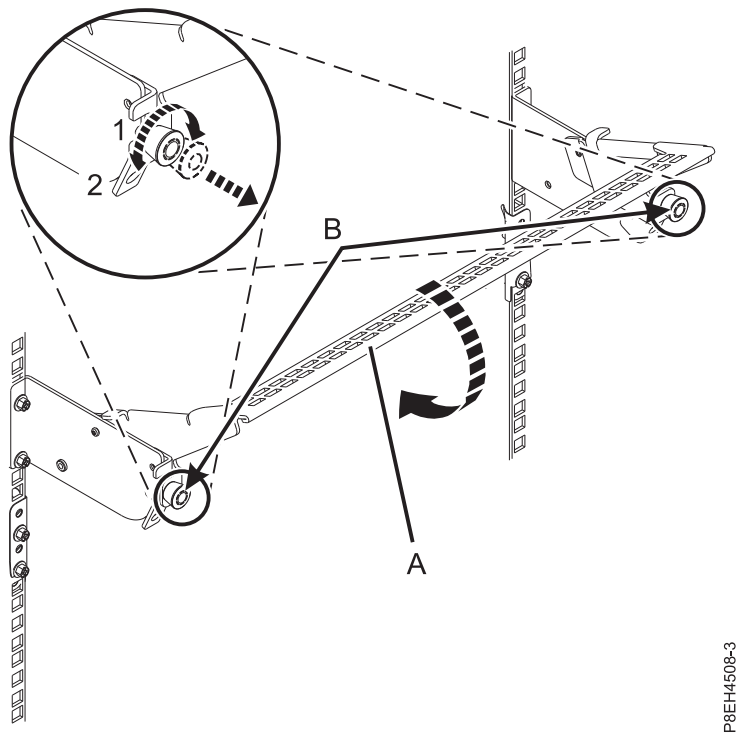

Figure 13. Placing the cable management bracket in the operating position
- a. Pull the quarter-turn fasteners (**B**) out and turn them to disengage them while moving the cable management bracket (**A**) to its lower position (**2**). See Figure 13 on page 15.